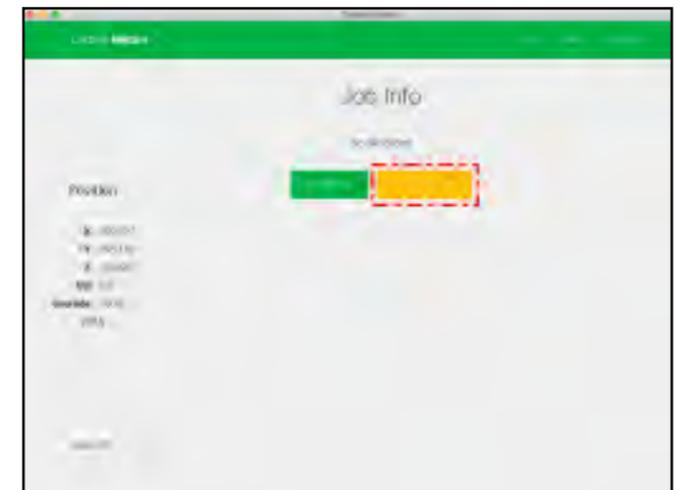

Figure 10-4
1. Click the yellow **Initialize Machine** button to home your Shapeoko Pro. See Fig. 10-4.